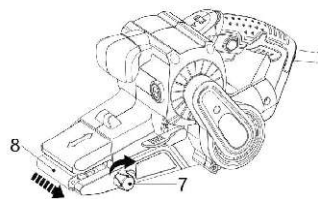

figure 4
- While the sanding belt is running, adjust the tracking knob (7) to center the belt on the rollers (10 & 12).
- Turn the knob (7) clockwise to adjust the sanding belt (8) to the right (figure 4).